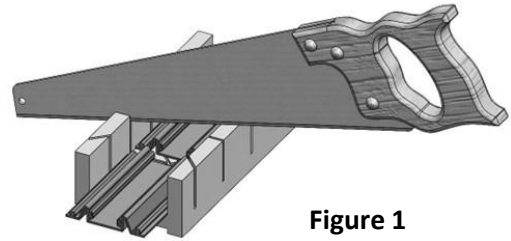

Figure 1
1. After determining the angle needed, use a miter box and a non-serrated saw (teeth removed) and cut ends of seal clean, straight and square. **See Figure 1**